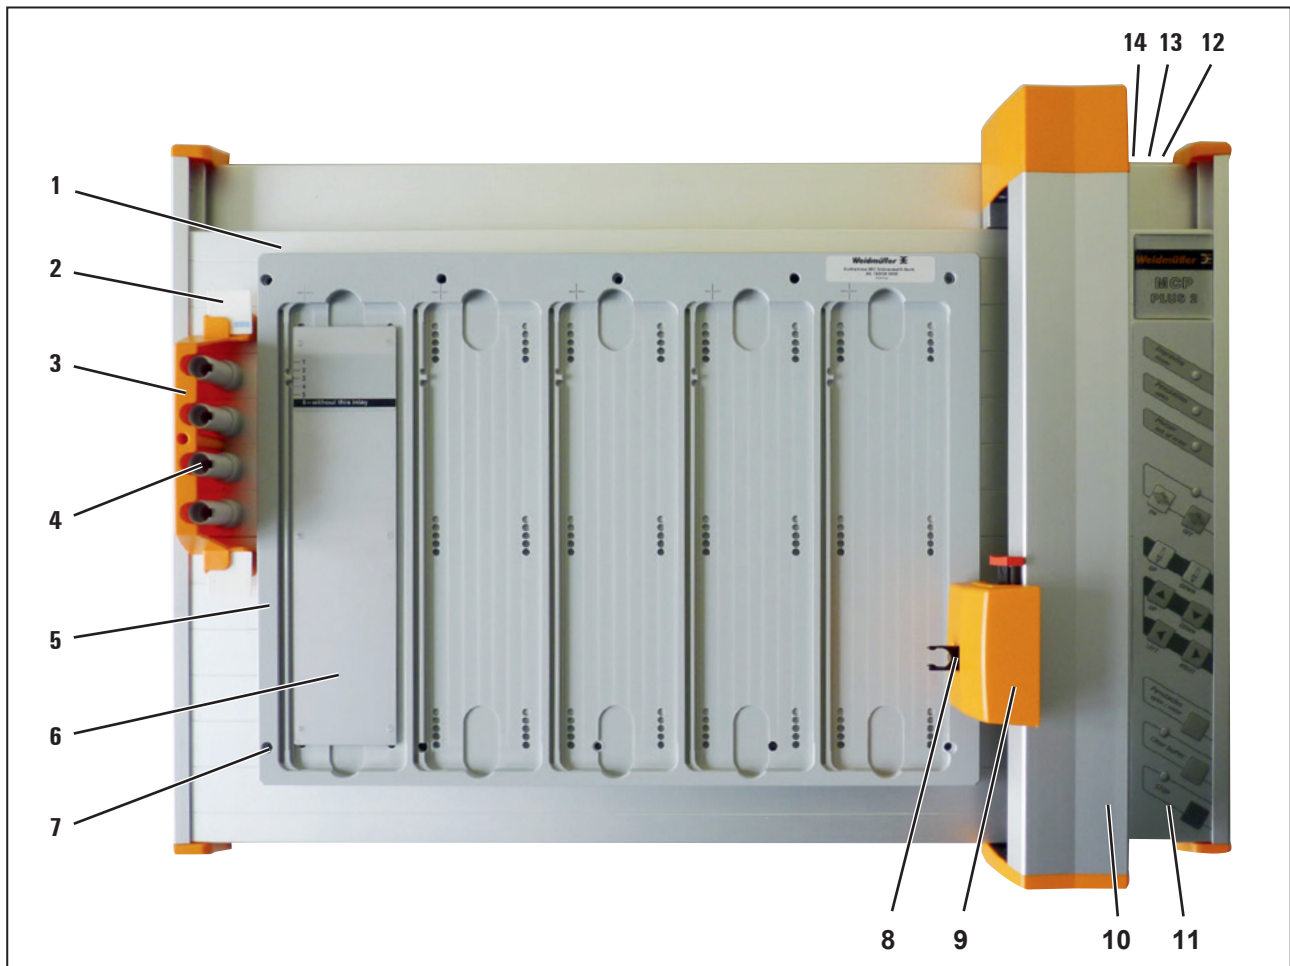

Fig. 4.1 Product overview
- Connect the mains connection cable to the plotter (Fig. 4.1, number 12).
- Connect the USB cable to the plotter (Fig. 4.1 number 14) and connect it to the PC.